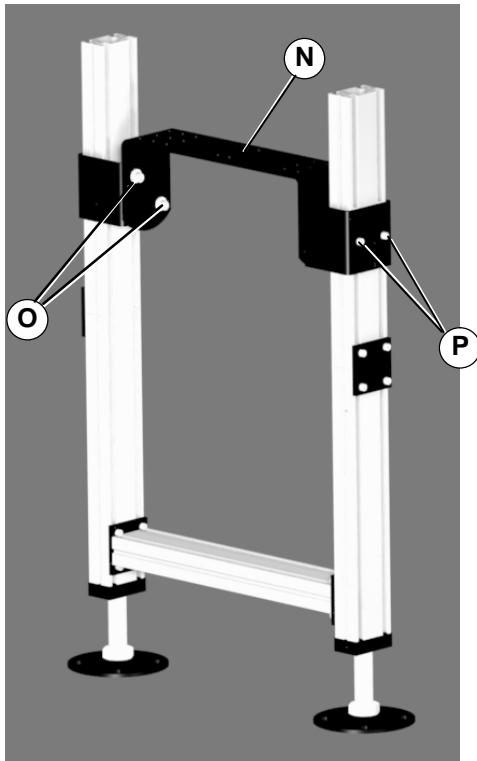

Figure 3
Illustration References (Figure 3)
1. Typical components as shipped (Figure 3)
2. Using phillips screwdriver, install four (4) nuts (Y of Figure 3) into same T-slot of cross member.